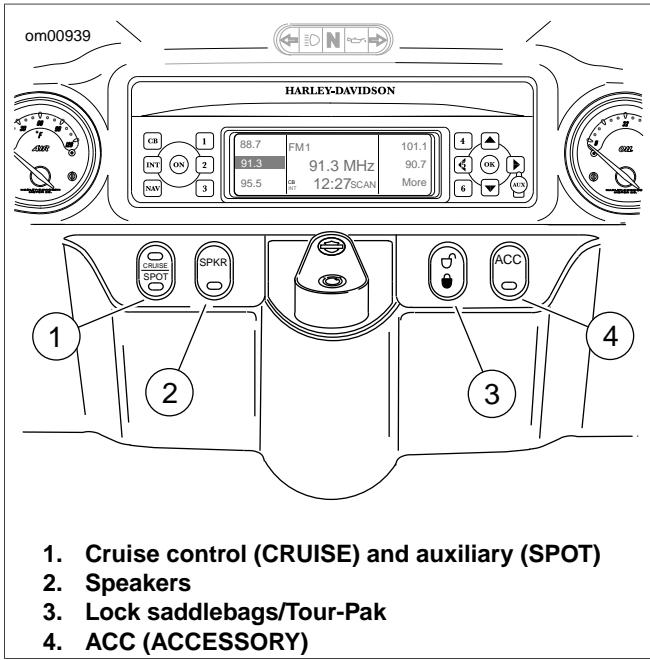

Figure 9. Switch Indicators: FLHTCUSE3
See Figure 9. The CRUISE/SPOT rocker switch (1) is a dual purpose switch.
See Figure 9. The accessory (ACC) rocker switch (4) is located in front of the rider on the inner fairing cap. Rock the switch rearward to turn the accessories circuit ON. The LED in the switch is illuminated when the accessories circuit is ON.
See Figure 9. Use the auxiliary lamp switch (1) to turn ON the auxiliary lamps as required.
See Figure 9. The locks on the saddlebags and Tour-Pak can be electrically locked and unlocked. The power lock is operated with a rocker switch (3) on the inner fairing cap. The rocker switch is labeled with padlock icons.